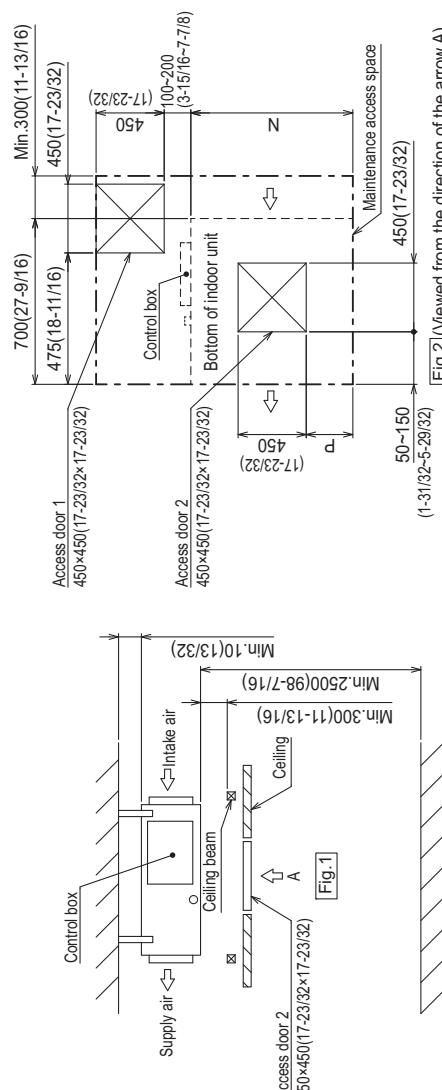

Fig.1 (Viewed from the direction of the arrow A)
(1) When a space of 300mm(11-13/16) or more is available below the unit between the unit and the ceiling. (Fig.1)